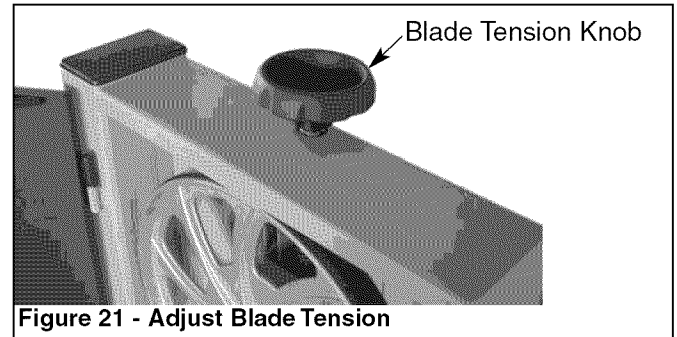

Figure 21 - Adjust Blade Tension
Refer to Figure 21.
- Loosen the blade tension by turning the blade tension knob on the top of the upper wheel housing counterclockwise until the saw blade has slackened (viewed from above). (See Figure 21.)